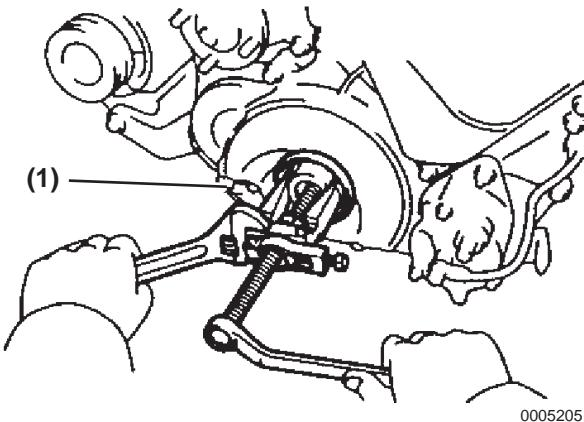

Figure 5-205
1. Remove the oil seal using a suitable tool (**Figure 5-205**, (1)).